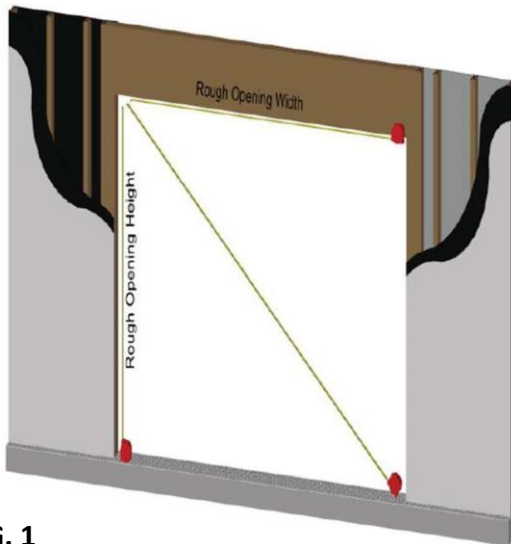

FIG. 1
1. Prior to checking the dimensions for the systems, ensure that the opening is square and plumb at the size stated on your order. **(Fig.1)**
2. Using a tape measure, check the height, width, and the dimension across the opening. The opening should be 1" larger than the assembled unit. **(Fig.1)**